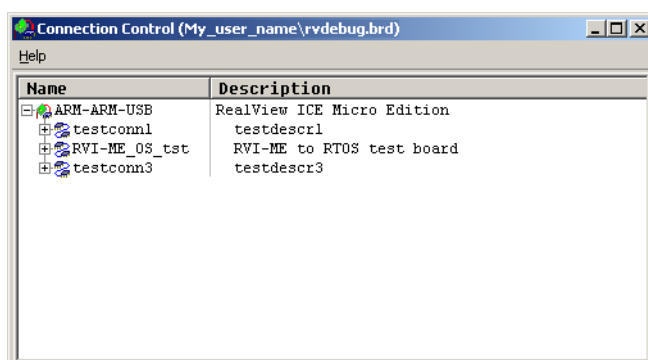

Figure 15-5 New connection in the Connection Control window
Your new RVI-ME target is now displayed in the Connection Control window, shown in Figure 15-5.
1. Ensure that you can see the new connection in the Connection Control window, shown in Figure 15-5 on page 15-11.